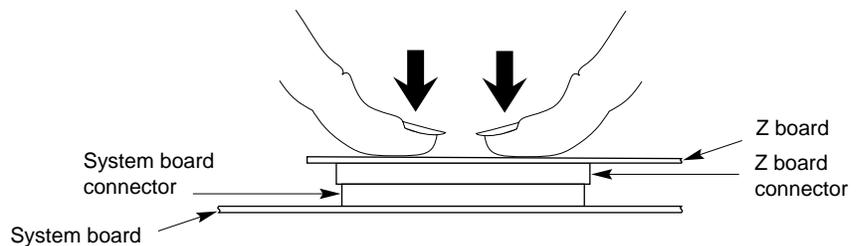

Figure 1-32 Seating the Z Board's Connectors
3. Press to seat the Z board's connectors into the system board's connectors, as shown in Figure 1-32.
- Look underneath the Z board to see the two 96-pin connectors. Due to the other components on the board, it may be difficult to see the connectors. The male and female connectors must be touching along the entire shared surface, as shown in Figure 1-32. Be sure to check each end of the connector.